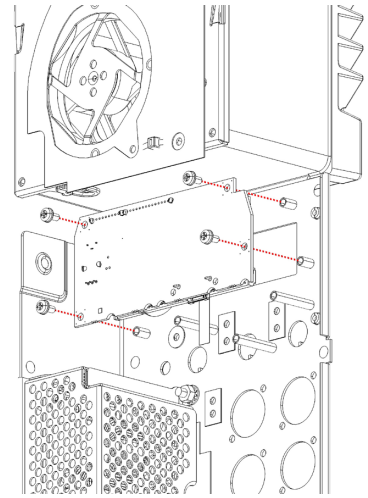

Figure 6.4.1 - LCD board assembly
3. Remove the 4 machine screws that secure the LCD board to the chassis stand-offs as shown in Figure 6.4.1.
5. Fasten the 4 machine screws that secure the LCD board to the chassis stand-offs as shown in Figure 6.4.1.